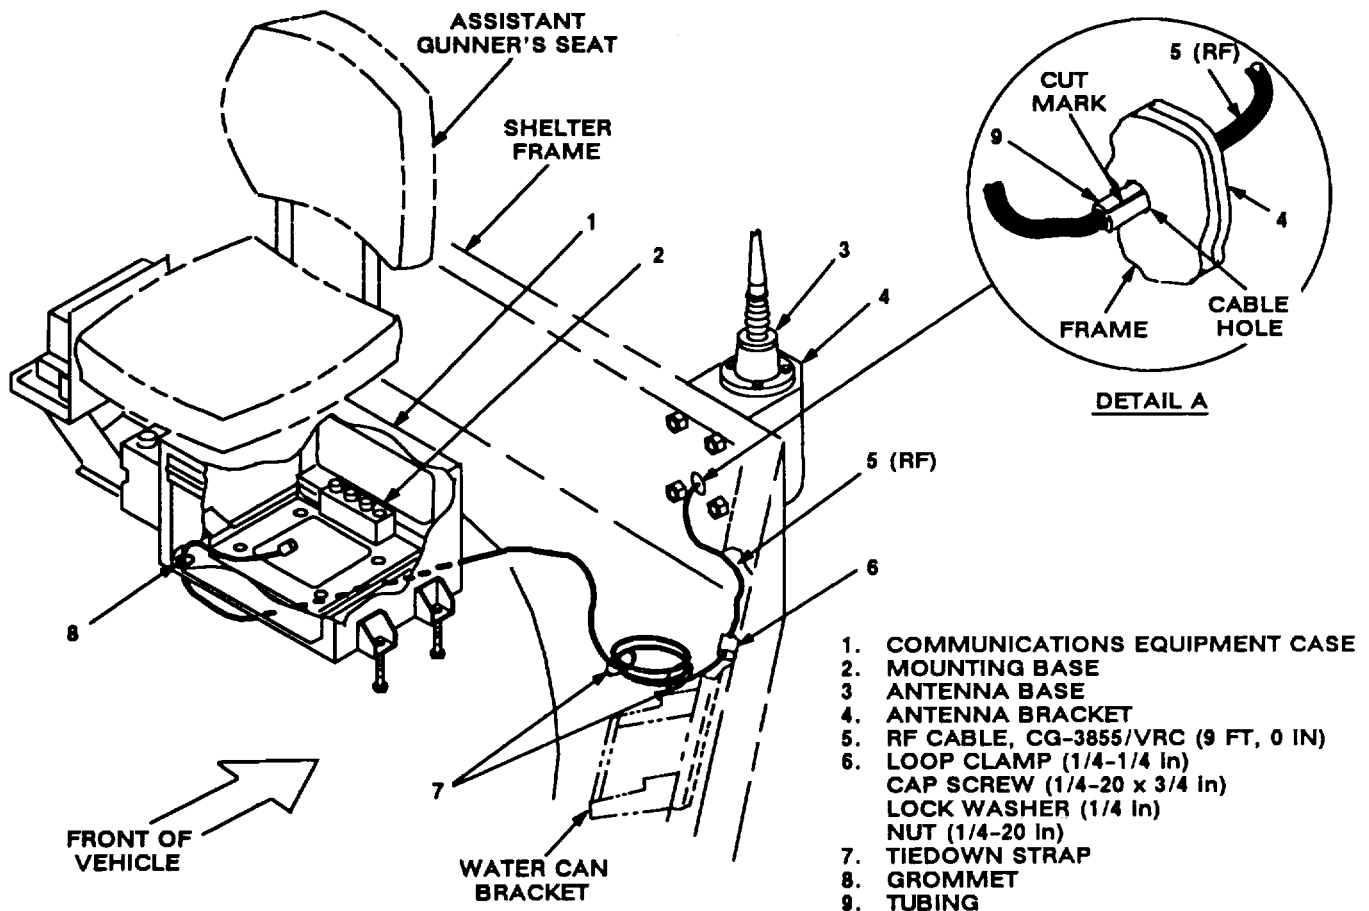

Figure 5-10. RF Cable Installation for Crew Personnel Shelter
a. RF cable (5) connector P1.	From inside shelter, insert through cable hole in frame and antenna bracket (4); then connect and secure to antenna base (3) connector J1. See figure 5-10.
c. RF cable (5).	Route under assistant gunner's seat to front of communications equipment case (1). See figure 5-10.
d. RF cable (5) connector P2.	Insert through grommet (8) and position on top of mounting base (2). See figure 5-10.
f. Access RF cable (5).	Coil and secure with tiedown straps (7); then position cable near water can bracket. See figure 5-10.
g. Adhesive-sealant.	Apply to and around cable hole in frame and antenna bracket (4).